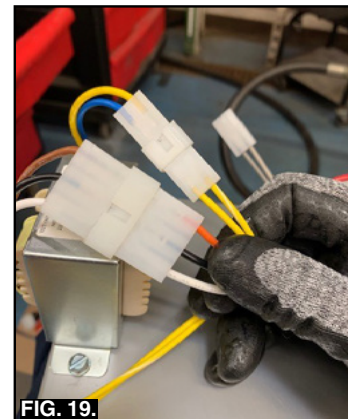

FIG. 19.
15. Plug in the Transformer. (Fig. 19).